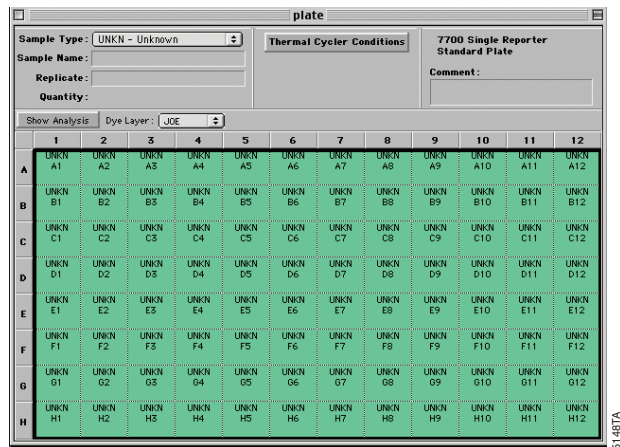

Figure 2. Setup screen.
- c. Select the sample wells to be used then select “Unknown” as the sample type (Figure 2).